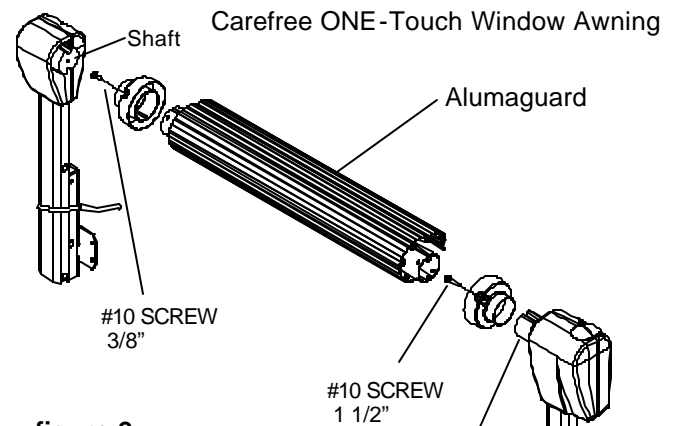

figure 2
**B.** Lay awning face down on a clean protected surface. Install roll bar collars on each end of the roll bar until they are fully seated against their stops. Insert the motor shaft into the roll bar making sure that the motor is on the right hand side of the roll bar when facing the awning rail. See figure 2.
**D.** Secure the roll bar collar and roll bar to motor shaft using the # 10 x 1½ " long self drilling screw provided. Secure the roll bar collar and roll bar to the idler shaft using the # 10 x 3/8" long self drilling screw provided. See figures 2 and 3.